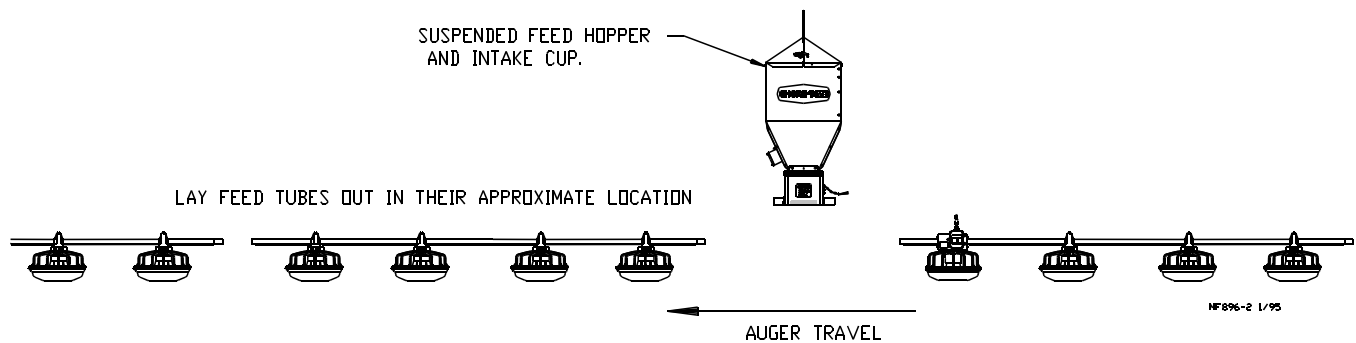

Figure 18. (Side View: Standing *outside* of the loop).
1. Position the tubes end to end in approximately the final location of the line. The feeder tubes should be installed so that the expanded end of each tube points in the opposite direction of auger travel. **See Figure 18**.